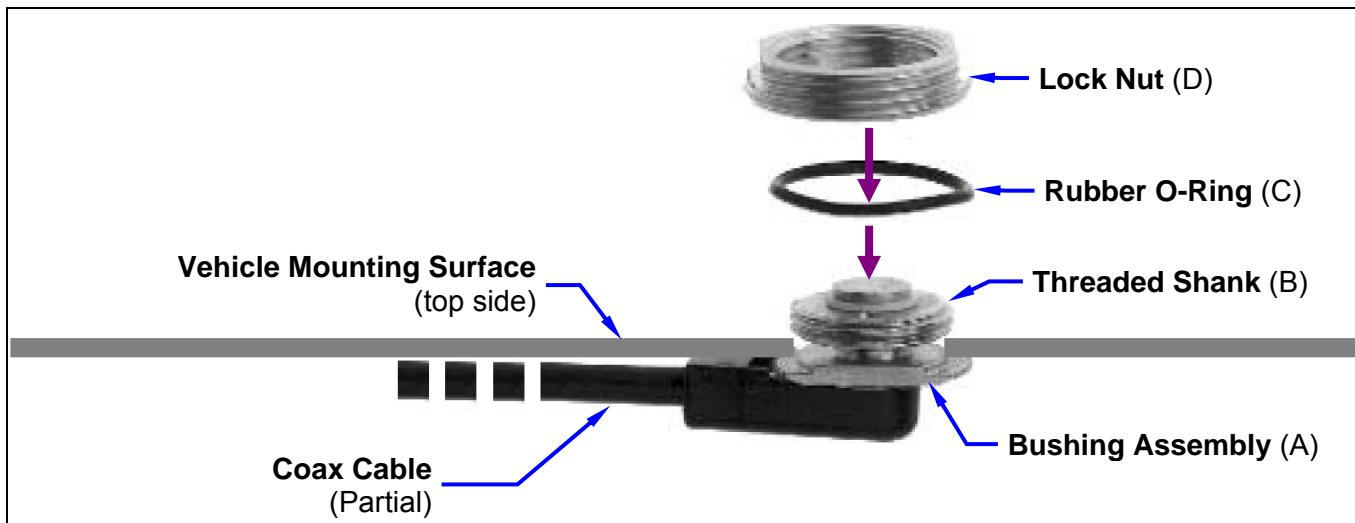
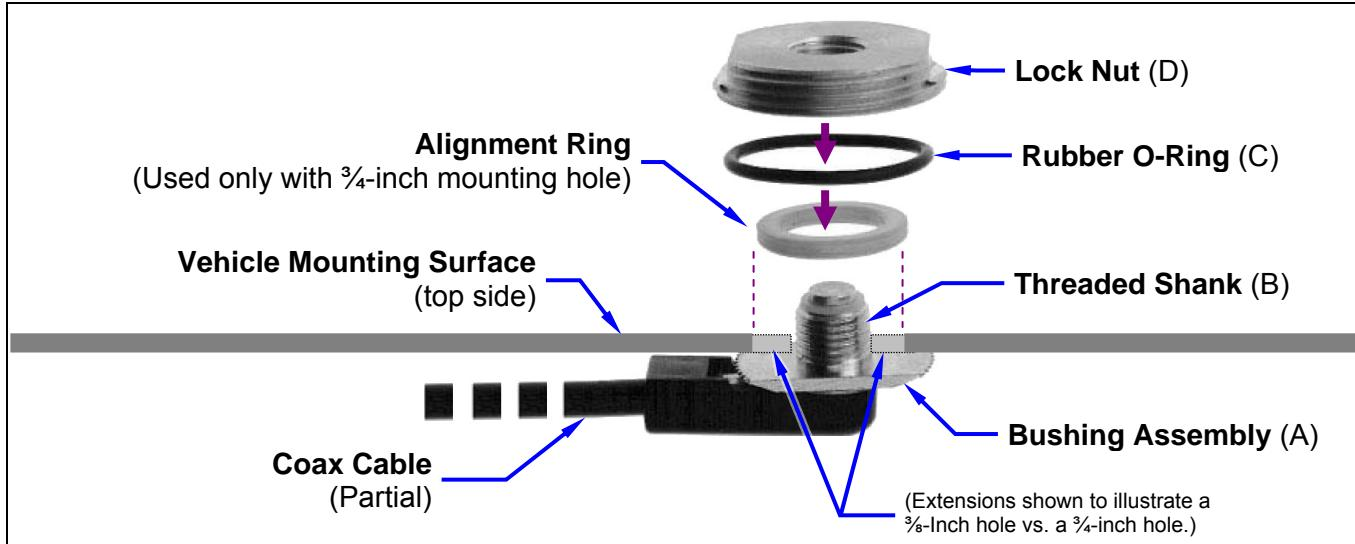

Figure 6-2: Installing Standard $\frac{3}{4}$ -Inch NMO Antenna Mount AN-125001-002
Figure 6-3: Installing Thick-Roof NMO Antenna Mount AN-125001-004
11. As illustrated in Figure 6-2 and Figure 6-3, add the O-ring (C) and lock nut (D) to the top of the mount's bushing assembly (A). With the O-ring in the groove in the underside of the lock nut, thread the lock nut onto the bushing assembly. Be sure the O-ring remains in the groove before tightening the lock nut.
2. Place the gasket included with the antenna element (not pictured in Figure 6-2 or Figure 6-3) around the mount and against the surface of the vehicle. If a lubricant or sealant was included with the gasket, apply it to the gasket before placing the gasket.